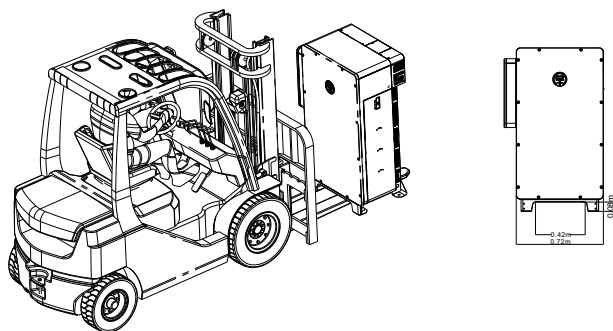

Fig 5.7 Moving the BSE100KH3 Inverter with a forklift
- 2> As shown in Fig 5.7, operate the forklift to insert the tines into the pallet openings to lift the inverter and then transport it to the installation position. (the fork width should be less than 0.42 m);